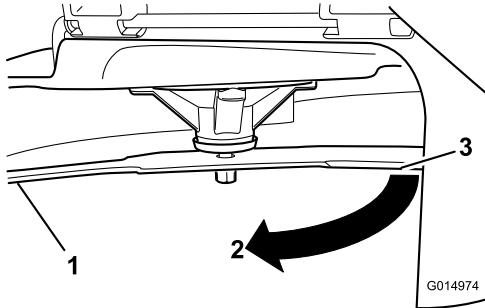

Figure 75
3. Second measured distance between blade and surface (B)
4. Rotate the same blade 180 degrees so that the opposing cutting edge is now in the same position (Figure 75).